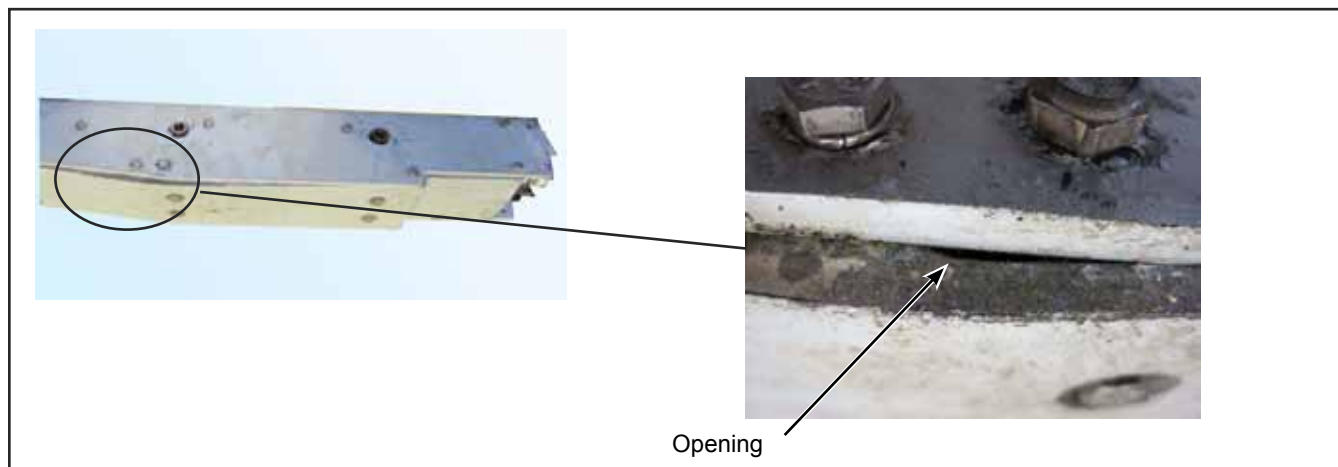

Figure 2 - Gear Box Actuator Typical Opening
1.2. Visually verify if there is an opening between the cover and the gear box body. See Figure 2.